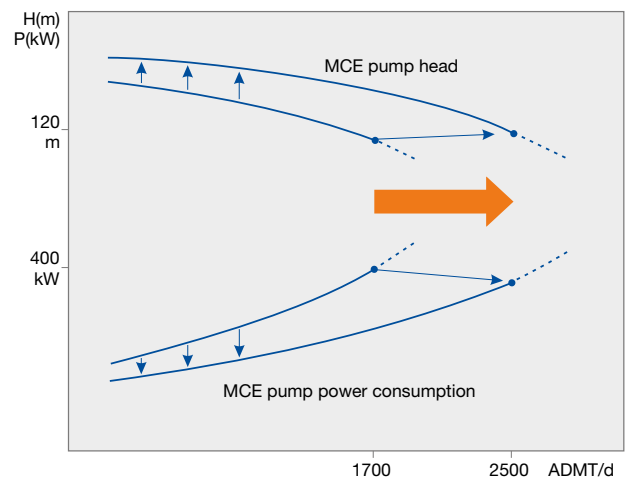

Fig. 1c. Production rate increase from 1'700 to 2'500 ADMT/d without increasing the power consumption.
- larger capacity ranges (Fig.1c, Fig. 4)